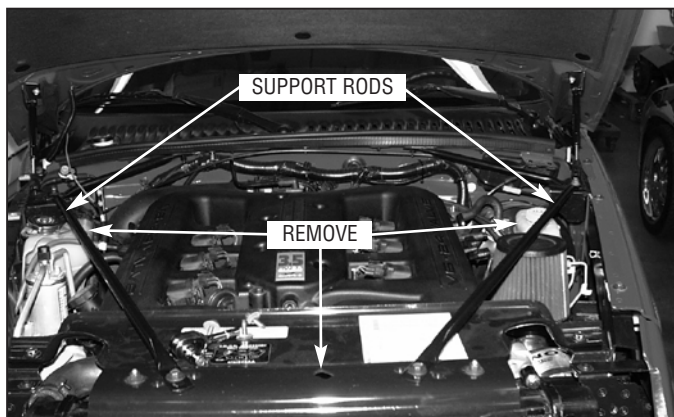

Fig. 2-2
- C. Using a 13mm socket, disconnect the support rods (that go over the top of the engine) at the rear of the engine compartment. Leave them connected to the radiator support plate. (See *Fig. 2-2*.)
- D. Using a 13mm and a 10mm socket, disconnect the upper radiator support and remove the upper radiator support and the support rods covering the engine. If your car has the hood support as part of this assembly, you will need a prop rod to support the hood during the rest of the installation. (See *Fig. 2-2*.) Place the front end of the car on jackstands as near to the engine supports as possible. (See *Fig. 2-3*.)